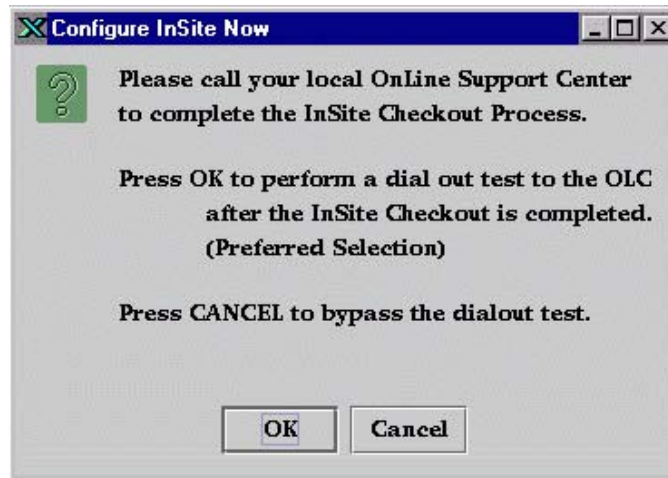

Figure 3-18 Configure InSite Now Requester
- Selecting the CHECKOUT NOW button configures ppp to allow a dial in connection from the OnLine Center. The user must call the local OnLine Center to have complete the checkout. The user will be asked to provide information from the "host list" section of the figure above (this is a listing of all host entries in the /etc/hosts file on the system). Locate the "loghost" entry, and check that the IP Address listed is correct prior to attempting the Checkout. During the Checkout process, the OnLine Center will download a sclink.cfg configuration file and run ConfigLink to configure ppp to allow only the OnLine Center to be able to dial and login to the site. See section Figure 3-18 on page 46 for more information.
When the user selects the CHECKOUT NOW button, the CONFIGURE INSITE NOW requester, Figure 3-18, is displayed providing the user the option to run a dial-out test upon completion of the InSite Checkout Process. If the user selects the OK button before the InSite Checkout Process is complete, the IIP Configuration Tool watches for a `~insite/sclink.cfg` file to appear. The IIP Configuration Tool will only wait 10 minutes for the `sclink.cfg` file to arrive. When the file appears, the dial-out test starts. This test ensures the dial prefix provided by the user and the number of the OnLine Center are correct. This also ensures Proactive Diagnostics messages and Contact GE requests can be sent to the OnLine Center.